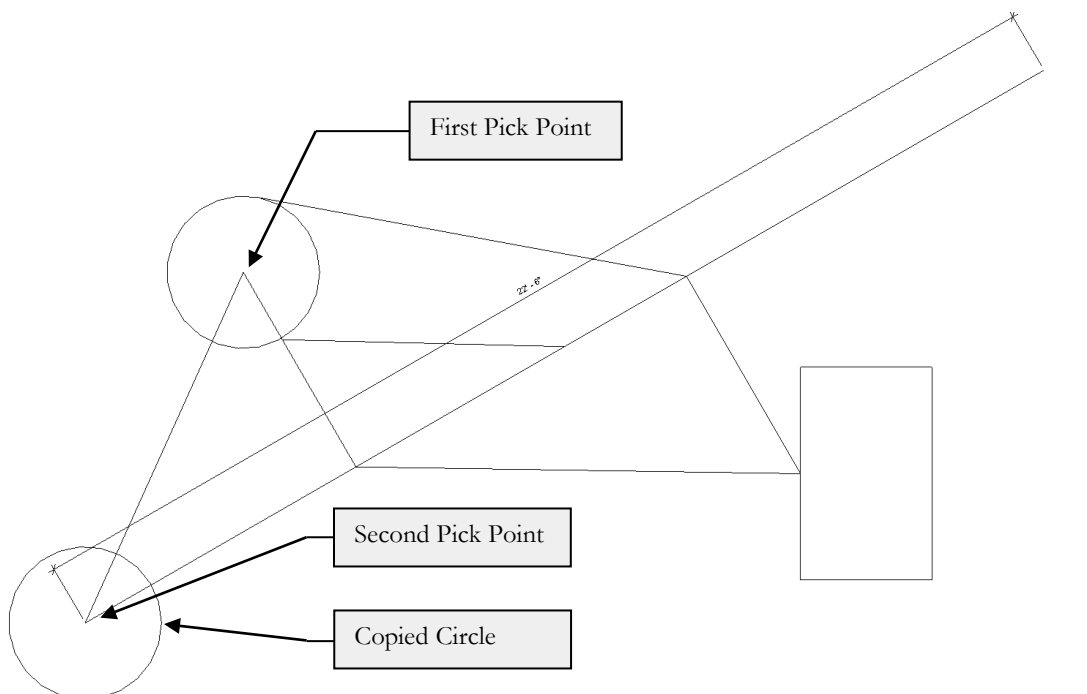

FIGURE 3-3.4 Copied circle; also indicates points selected
7. Pick the **center** of the **circle** (Figure 3-3.4).
8. Pick the **endpoint** of the angled line in the lower left corner (Figure 3-3.4).